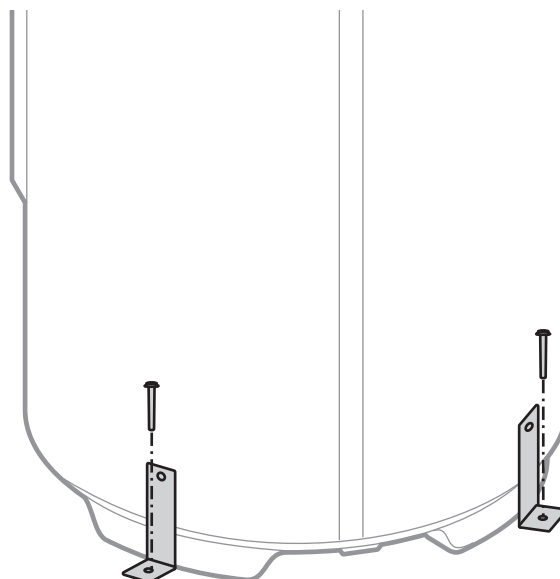

fig. 18 - Floor fixing
- Fix the hydraulic module to the ground (attachment not supplied) (fig. 18).